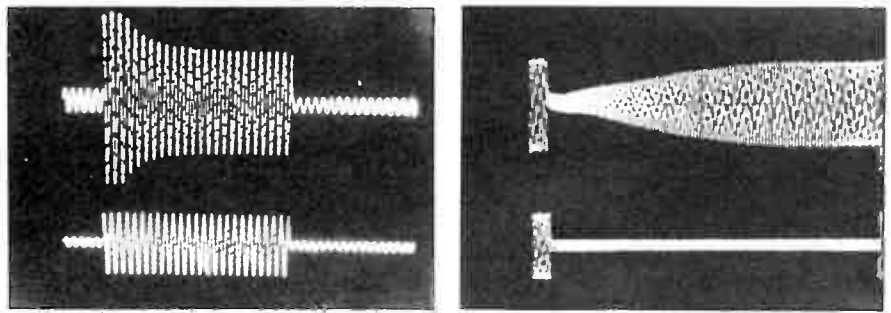

Fig. 3. Automatic level control obtained with the limiter. Small signal response (b) and large signal response (a). Upper channel: output; lower channel: input.
provided by the gain cells controls the attenuation introduced by A_5 and A_6 . In the present application, the operation of the gain cells is, therefore, comparable to that of a current controlled electronic potentiometer. Output opamps A_2 (L) and A_4 (R) are dimensioned for an amplification of about 4.7. The oscillograms of Fig. 3 show the dynamic response of the limiter.